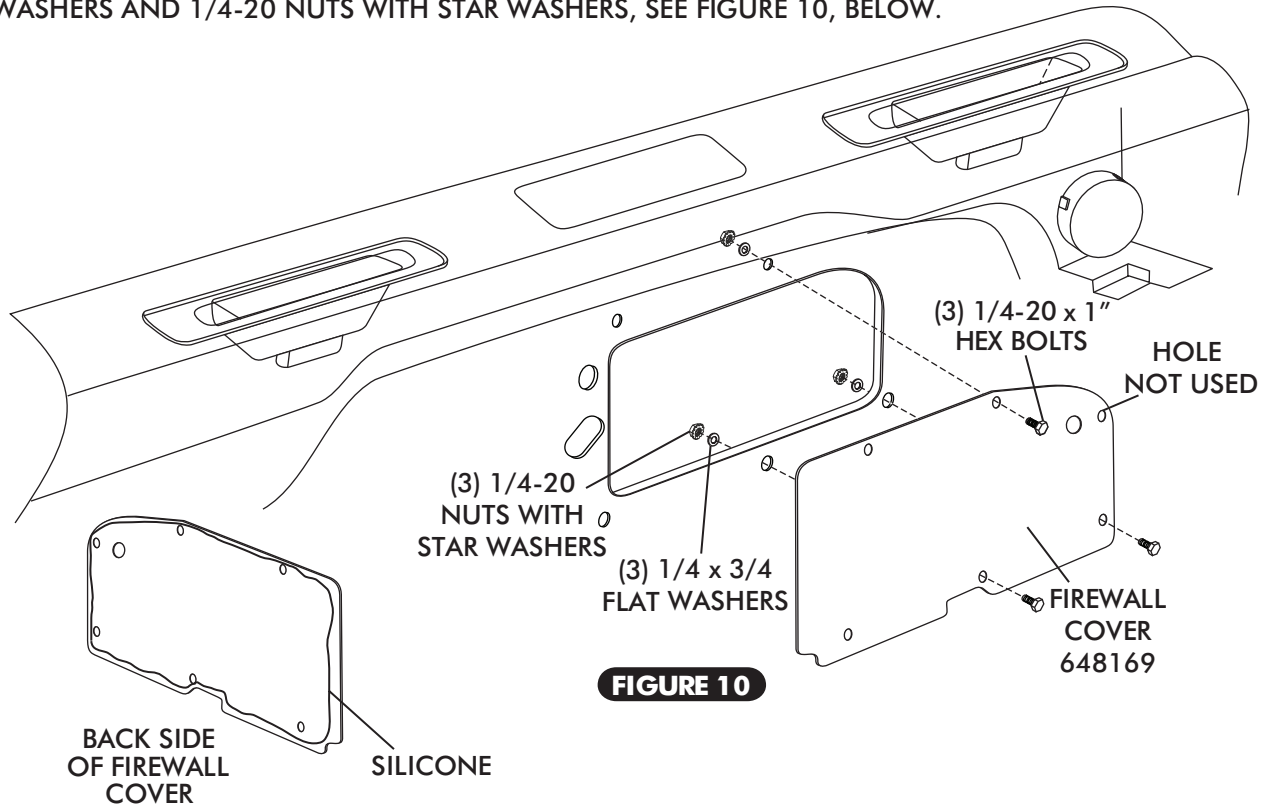

FIGURE 10
- ☐ APPLY A 1/4" BEAD OF SILICONE AROUND THE BACK SIDE OF THE FIREWALL COVER AS SHOWN IN FIGURE 10, BELOW.
- ☐ FROM INSIDE THE CAR, INSTALL FIREWALL COVER ON FIREWALL USING (3) 1/4-20 x 1" HEX BOLTS, FLAT WASHERS AND 1/4-20 NUTS WITH STAR WASHERS, SEE FIGURE 10, BELOW.